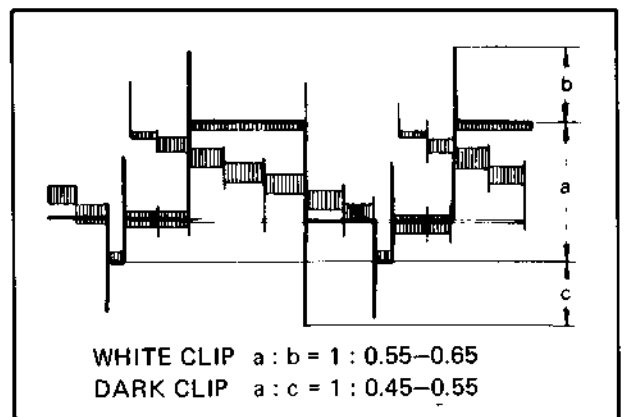

Fig. 6-28 White and dark clip adjustment
3. Adjust R12 (WHITE CLIP), so that the amplitude ratio of transient "spikes" with white clip becomes as shown in Fig. 6-28.
4. Adjust R26 (DARK CLIP), so that the amplitude ratio of the transient "spikes" with dark clip becomes as shown in Fig. 6-28.